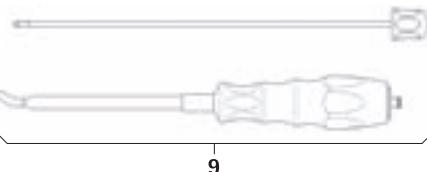

Fig. 5
- Dismantle rod insertion instrument **9**, see Fig. 5: Unscrew the inner part.